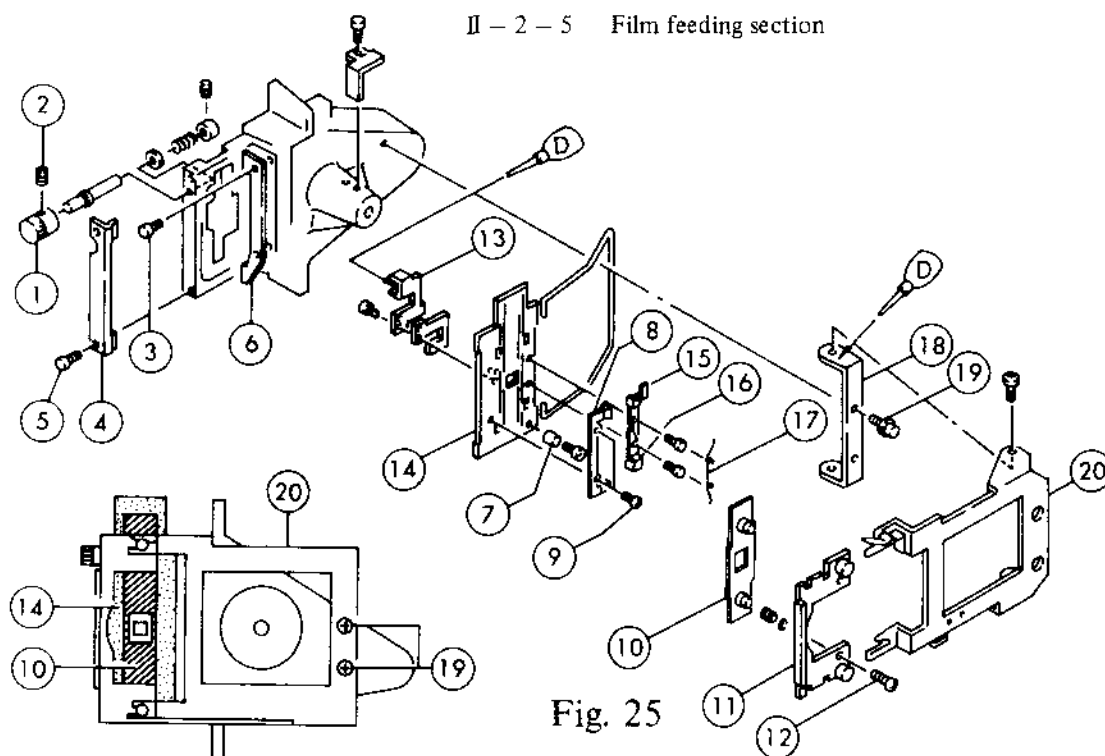

Fig. 25
1. Refer to Fig. 25 for disassembly.